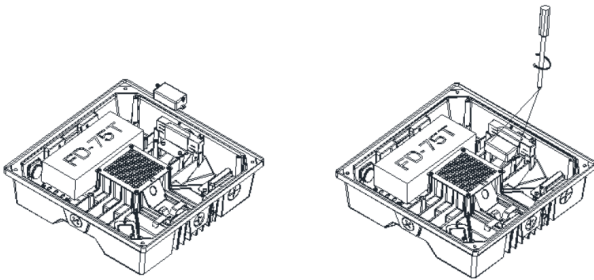

Fig. 3
4. Install the sensor to the mounting hole on the luminaire. (Fig. 3)